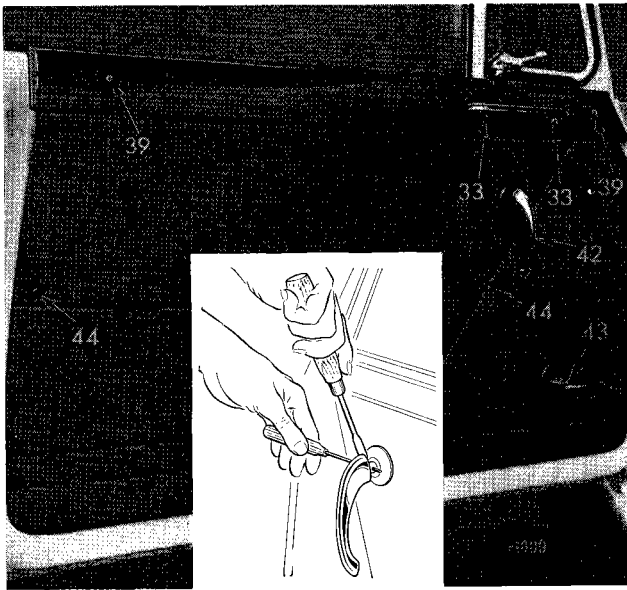

Fig. 63. Trim panel attachments
1. To Remove (Fig. 63)
- (a) Remove four screws (33) and (39) securing the wood cappings to the door (*Vitesse 6* only).
- (b) Lever off two buttons (44), unscrew the exposed screws (48) and remove the washers (*Vitesse 6* only).
- (c) Remove two interior handles (42 and 43) by pressing the escutcheons (40) firmly against the trim panel and pushing out the retaining pins (41).